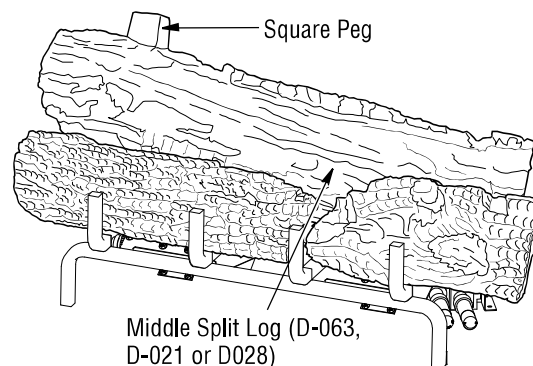

Figure 28 - Installing Middle Split Log (D-021)
- Find the middle split log (LMF24GTA/B or LMF24MOA/B models: D-063, LMF30GTA/B or LMF30MOA/B models: D-021, LMF36GTA/B or LMF36MOA/B models: D-028). See **Figures 28 and 28A**. The split side of the log faces forward. The log has a notch that fits around the burner